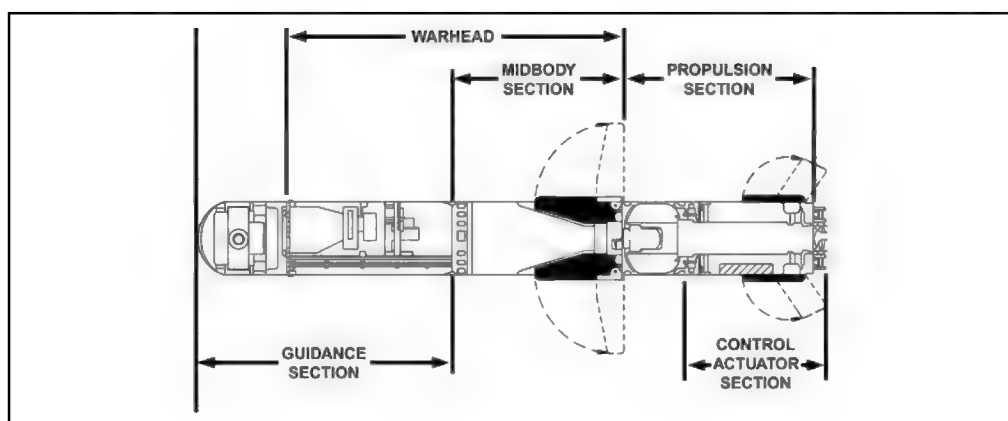

Figure 1-20. Javelin missile.
- h. **Missile.** The Javelin missile is environmentally sealed in the LTA (Figure 1-20).